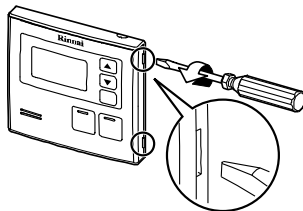

Fig. 2
5. Carefully remove face plate from the water controller, using a screw driver (Fig. 2).